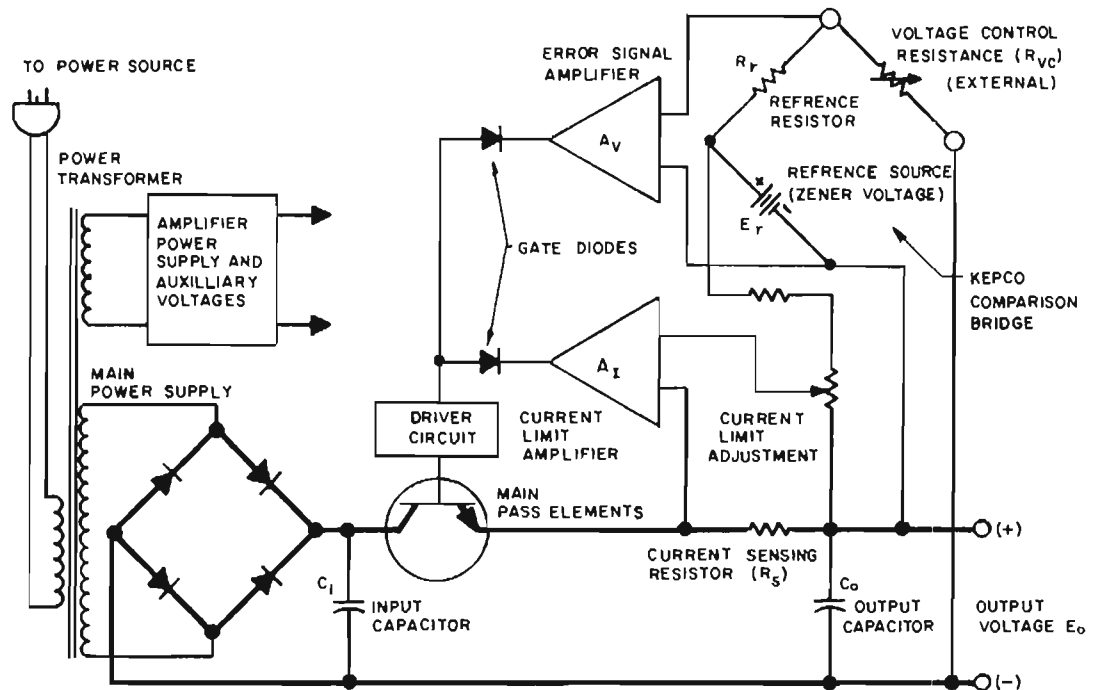

FIG. 4-1 SIMPLIFIED DIAGRAM, PAT POWER SUPPLIES.
(References in CAPITAL LETTERS refer to the nomenclature used in FIG. 4-1.)
### 4-1 SIMPLIFIED DIAGRAM DISCUSSION. (Refer to FIG. 4-1.)
- a) A-C INPUT CIRCUIT. A-C input power is introduced through rear barrier-strip TB1 terminals (1) and (2). Terminal (3) is connected to the chassis and should always be returned to a-c ground. The fuse (F1) protects the primary of the power transformer (T201) from excessive current. T201 has two primary windings which are connected either in parallel (for 115V a-c service) or in series (for 230V a-c service).
- e) THE COMPARISON BRIDGE. This 4-arm electrical bridge circuit is the regulating and controlling element in many Kepco Power Supplies. In the PAT models it consists of the reference voltage  $E_r$  (CR8), the reference resistor  $R_r$  (R15 and the optional bridge current adjustment rheostat R16), the voltage control resistance  $R_{VC}$  [either the optional internal control R13 or the resistor externally applied between terminals (11)-(12) on TB1], and the output voltage  $E_o$ . As shown in FIG. 4-1, the internal reference voltage  $E_r$  in series with the reference resistance  $R_r$  is continuously compared with the output voltage  $E_o$  in series with the voltage control resistance  $R_{VC}$ . At balance ( $E_{AA'} = 0$ ), a constant bridge current  $I_b$  flows through the bridge, keeping the error signal at bridge terminals A-A' at approximately zero volts. Any deviation in  $E_o$  caused by a-c source, load variations, or other influences will tend to change  $I_b$  in the bridge circuit and thereby produce an error signal at the bridge terminals A-A'. This error signal is then amplified by the error signal amplifier  $A_V$  and acts as a control signal for the series regulator or pass element changing the voltage drop across it in such a way as to restore the previous output voltage level.